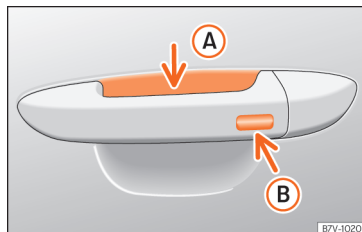

Fig. 130 Driver door lever: sensor surfaces.
• Press and hold the locking sensor surface »» Fig. 130 (B) on the door handle to close the sunroof. If you release the sensor surface, the closing movement stops.